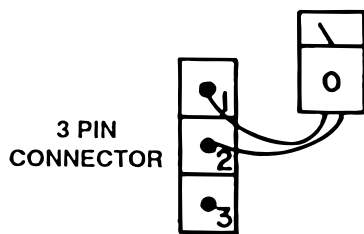

Figure 5-14. Back View Connector C
3. Use the R x 1 scale of the ohmmeter and measure the resistance between the pins located in 3 pin connector C shown on the chart. See figure 5-14.